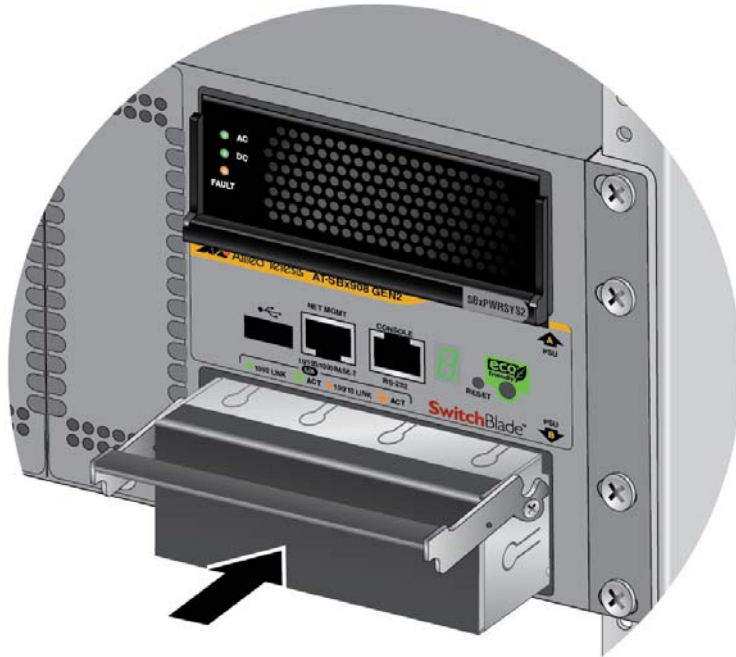

Figure 50. Aligning the Blank Power Supply Cover in the Slot
2. Align the cover in the empty power supply slot and carefully slide it into the slot. Figure 50 on page 86 shows the cover being installed in the PSU B slot.